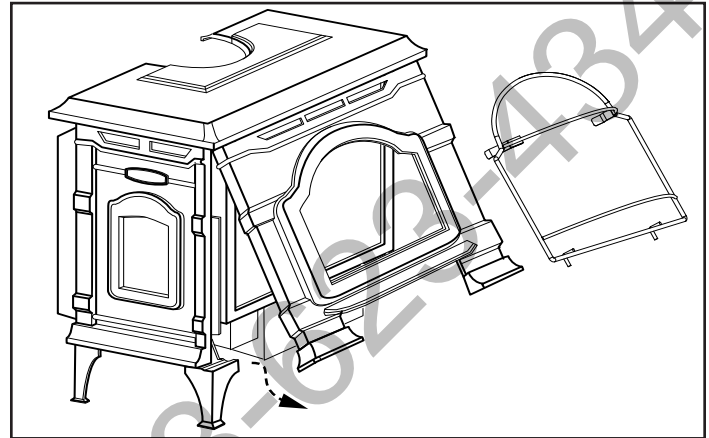

Figure 36 - Remove stove front.
1. Remove barrier screen first by pulling out and up. Remove stove front. Lift stove front up and then swing bottom out and away to disengage from the stove body. (Figure 36)